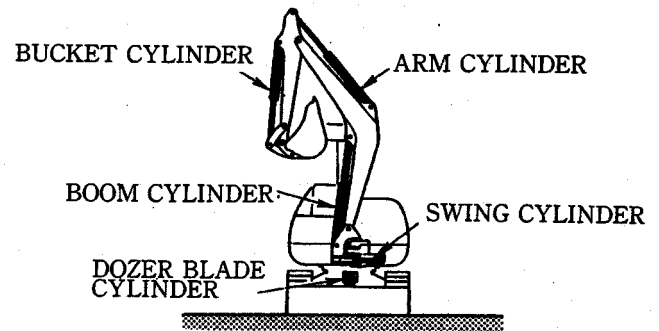

Fig. 5-3 Pressuring posture for hydraulic oil tank
- 6) Refill the specified hydraulic oil, and tighten the oil filling port plug (9) confirming the oil level with the oil level gauge (12).
- 7) Start up the engine keeping to open the plug (10) of hydraulic oil tank. After the engine operation for 2 to 3 minutes at low idling, operate each cylinder several times to bleed air in the lines.
- 8) Pressurize the hydraulic oil tank. Extend each cylinder up to their stroke ends to take the machine the posture shown in Fig. 5-3. While keeping this posture, tighten up the plug (10). The tank is pressurized by means of retracting the rod of cylinder while operating the attachment.